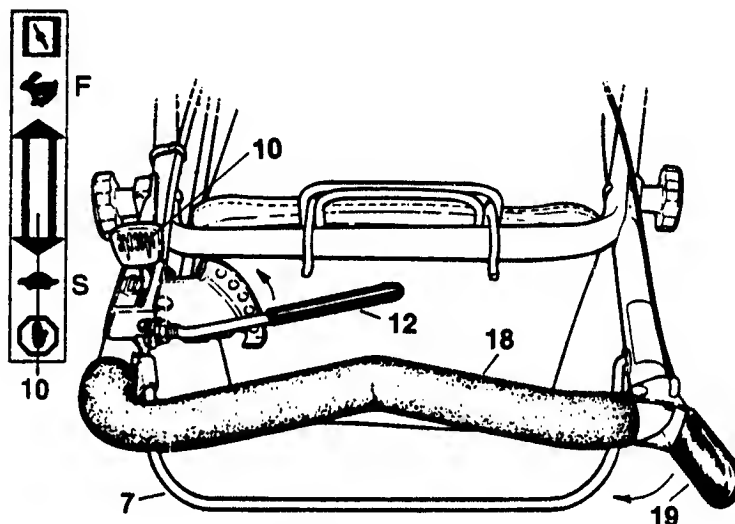

FIG. 6-MOWING CONTROLS
Set the **ENGINE CONTROL** lever (10) in the fast (F) position when cutting tall, thick grass. For shorter, less dense grass, use a slower (S) position. Refer to FIG. 6.